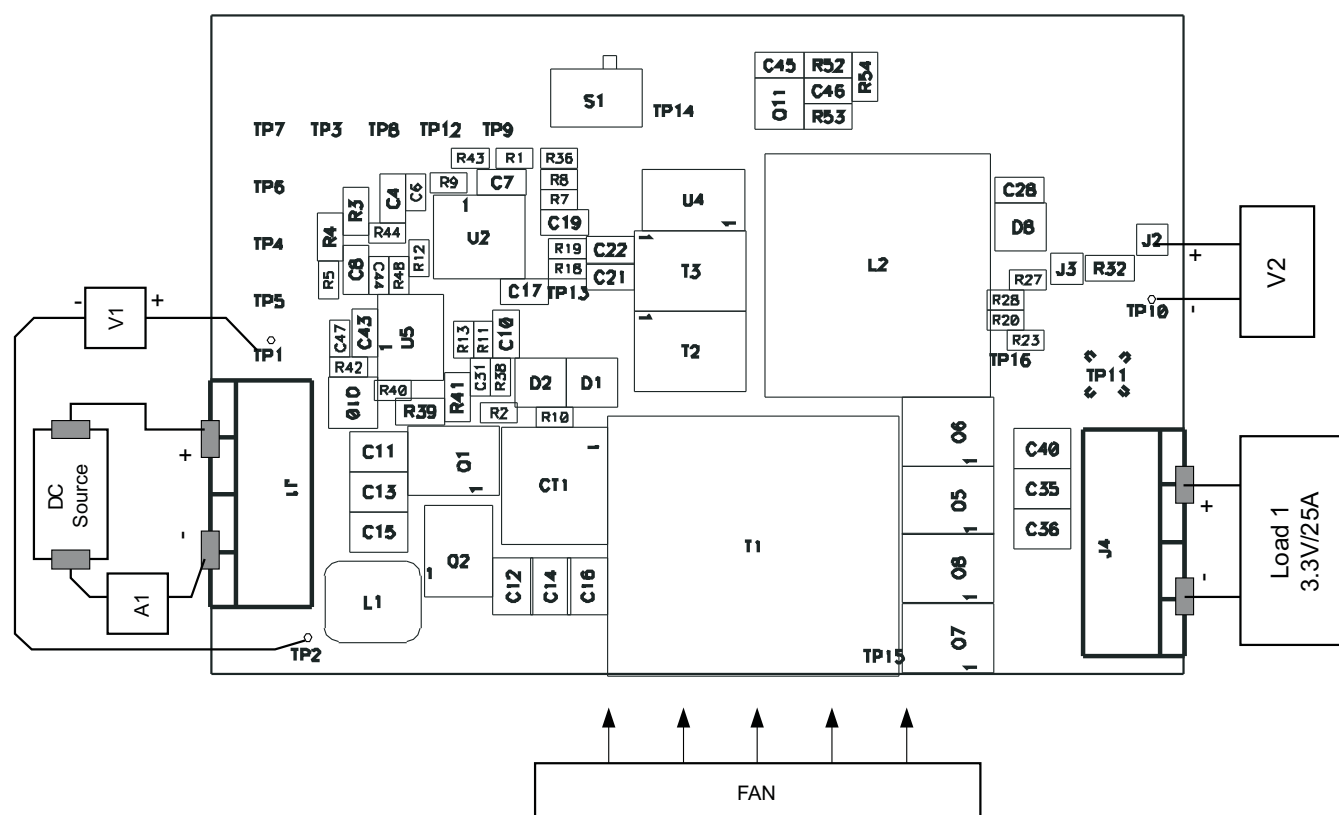

Figure 2. Recommended Test Set Up
Set up the EVM based on Figure 2.
1. Connect the ammeter A1 (0 A to 10 A range) between DC source and J1 as shown in Figure 2.
2. Prior to connecting the DC source, it is advisable to limit the source current to 3 A maximum. Make sure the DC source is initially set to 0 V and connected to J1 and A1 as shown in Figure 2.
3. Connect voltmeter, V1 across the DC source as shown in Figure 2.
4. Connect Load1 to J5 as shown in Figure 2. Set Load1 to constant current mode to sink 0 ADC before the input voltage on J1 is applied.
5. Connect voltmeter, V2 to J2 and TP10 as shown in Figure 2.